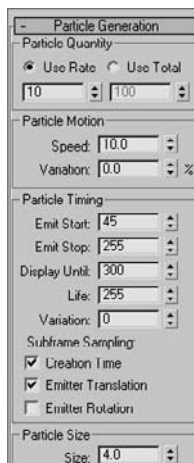

Figure 12.17
5. Change the Display Until value to 300, as shown in Figure 12.17, so that the particles appear in the scene for the entire active time segment. Set the Life value to 300 so the particles do not die out in the scene.